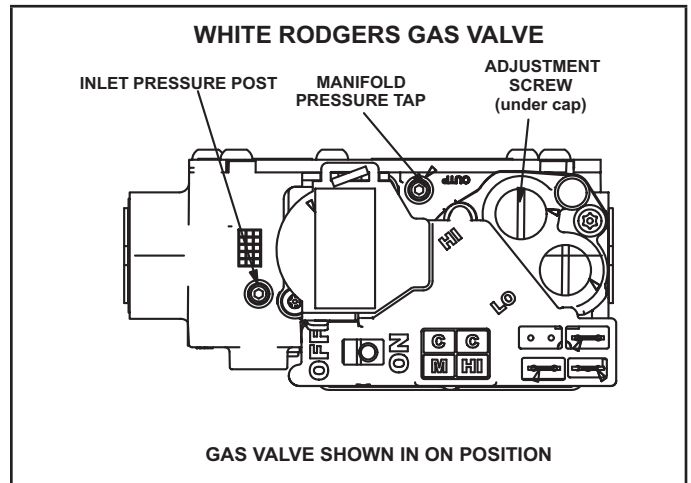

FIGURE 35
Gas Valve Operation (Figures 35 and 36)
- 6 - Move switch on gas valve to OFF. Do not force. See figures 35 and 36.
- 8 - Move switch on gas valve to ON. Do not force. See figures 35 and 36.
- 4 - If necessary, make adjustments. Figures 35 and 36 show location of adjustment screw.